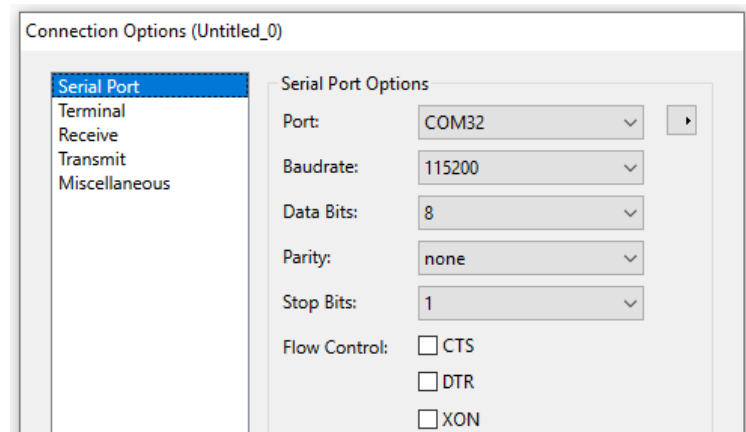

Figure 43. Serial Port Options in CoolTerm.
- Click the Options button from the CoolTerm main window (also found under Connection in the top menu). Click the **Re-Scan Serial Ports** button at the bottom of the **Serial Port** tab, and ensure that the Baudrate is set to 115200, Data Bits are 8, Parity is none, and Stop Bits are 1 (see **Figure 43**).